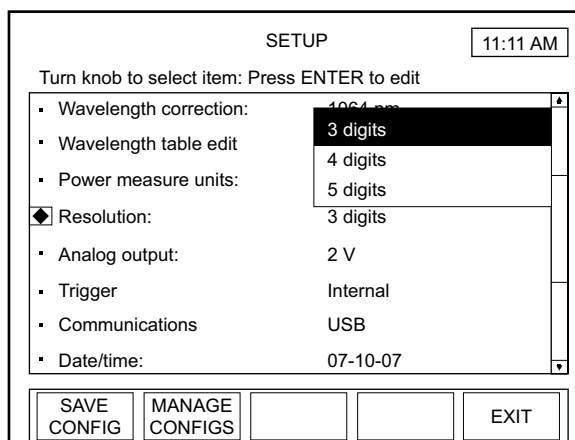

Figure 4-49. SETUP: Resolution
2. Press the ENTER/SET button to display a dropdown list of available resolutions (similar to the list shown in Figure 4-49).